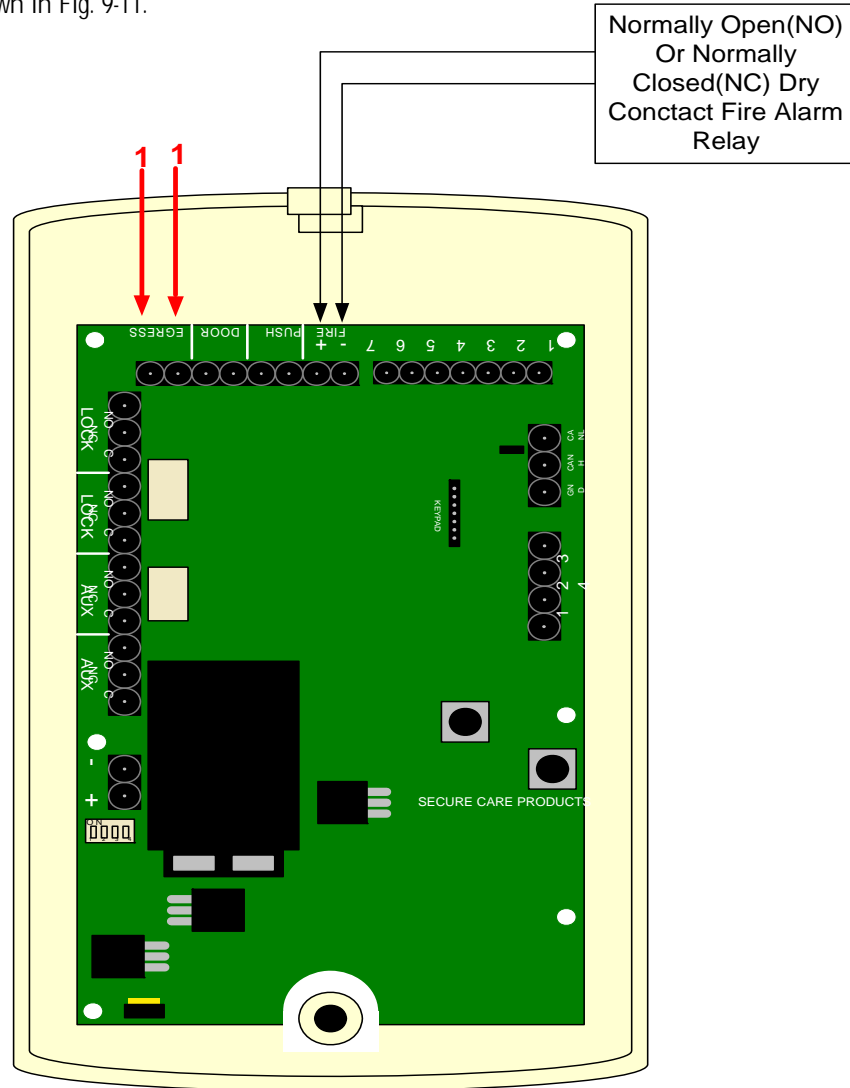

Figure 9-11 Delayed Egress and Fire Alarm Connections
Each of our panels has a delayed egress connection and a fire alarm connection per Life Safety Code 101 and NFPA code 101. The fire alarm panel connection is designed to disengage the magnetic lock in the event of a fire alarm. The delayed egress connection will sense when pressure is applied to the door, releasing the magnetic lock 15 seconds later. Connect the positive lead from your fire alarm panel to the positive termination on the panel; connect the negative lead from your fire panel to the negative termination on the panel. When connecting the delayed egress (1), simply connect both leads from the lock to the panel. Polarity does not matter. Connections are shown in Fig. 9-11.